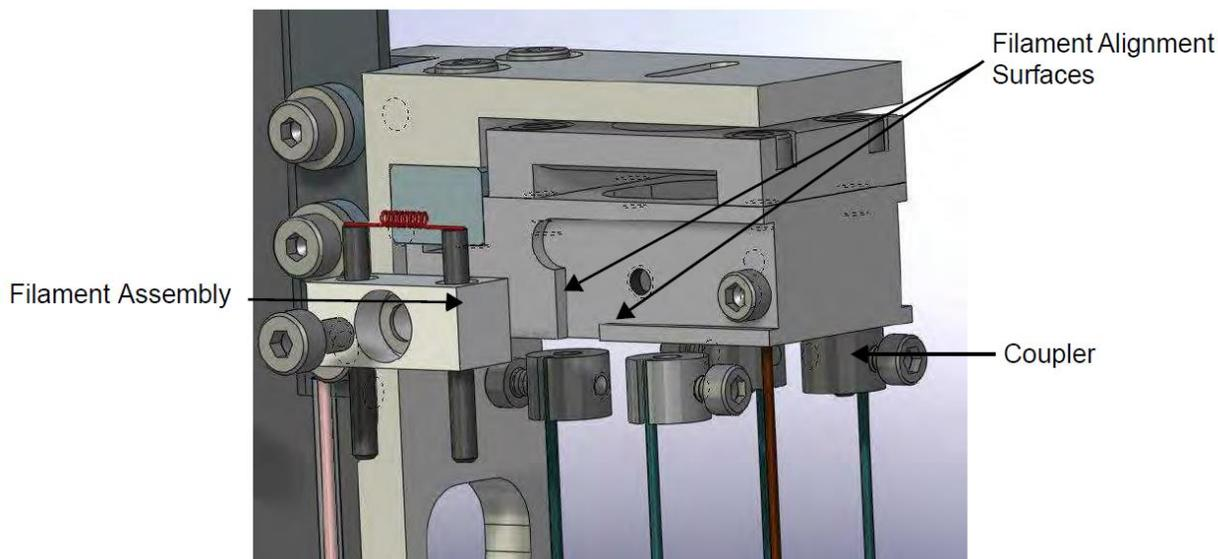

Figure 3-6. Filament removal and replacement
12. On a clean work surface, remove the defective filament(s) from the spectrometer by loosening the two coupler screws. Then loosen the M2 screw and washer and remove the defective filament(s). See Figure 3-6.